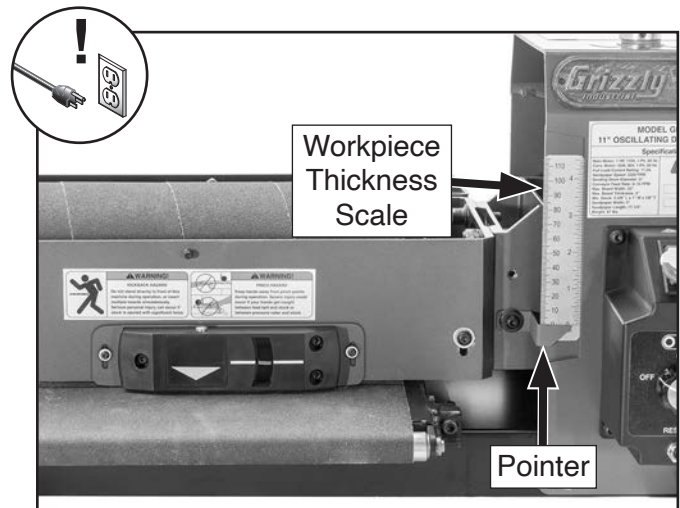

Figure 31. Sanding drum adjusted down to zero workpiece thickness scale.
- If pointer points to 0" on workpiece thickness scale (see **Figure 31**), no adjustment is required.
- If pointer *does not* point to 0" on workpiece thickness scale (see **Figure 31**), proceed to **Step 3**.